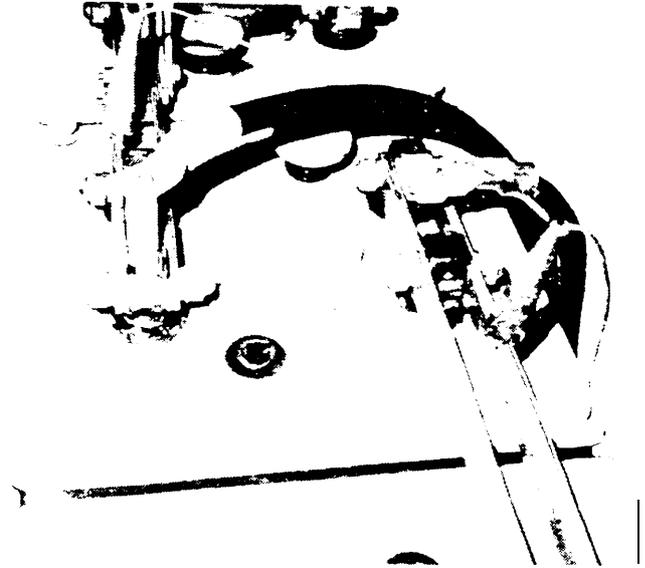

Figure 5. Power and Reference Leads Connected to Ceil.
- (5) Connect the red reference lead to the positive cell connecting strap as close as possible to the terminal post (Figure 5). Connect the black reference lead to the negative cell connecting strap in the same manner. Do not connect either reference lead to the terminal lug of the corresponding 4/0 gauge cable.